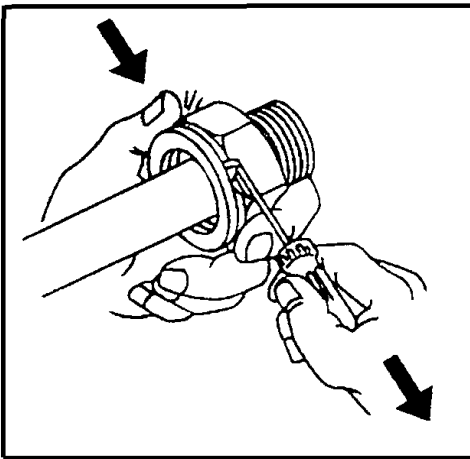

Figure 3 OE Quick connect fittings
6. Remove C-clips on transmission cooler lines and disconnect hoses. Automatic (A8) models only. See figure 3. Plug lines to limit fluid loss and leakage.
7. Remove (4) four 10mm transmission cooler screws and remove cooler. A8 models only. Drain cooler into clean container for reuse.